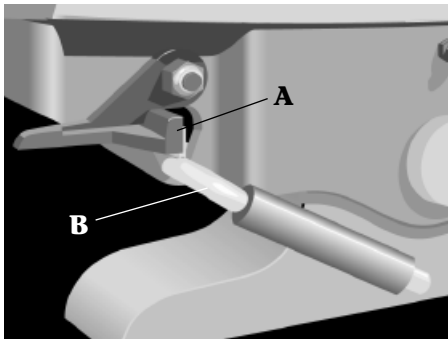

Figure 13
LOCKED POSITION (Figure 13) - Pivoting jaw and spring actuated lock encircle the kingpin (not shown).
In the locked position, the safety indicator (A) is parallel with the top of the fifth wheel and the operating rod handle (B) is angled down, with cam in contact with the indicator (Figure 13).
IMPORTANT: On the rotary pull fifth wheels, the cam is always in contact with the indicator (Figure 13).